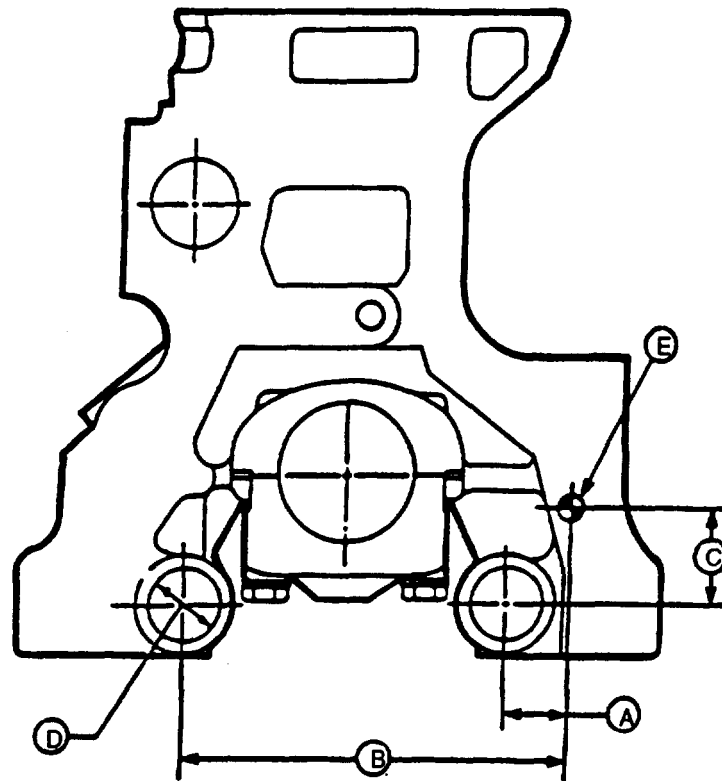

FIGURE 3-114. Balancer Shaft Bushing Line Boring References
- a. Line bore engine block to specification listed below. Refer to FIGURE 3-114 for References A through E.